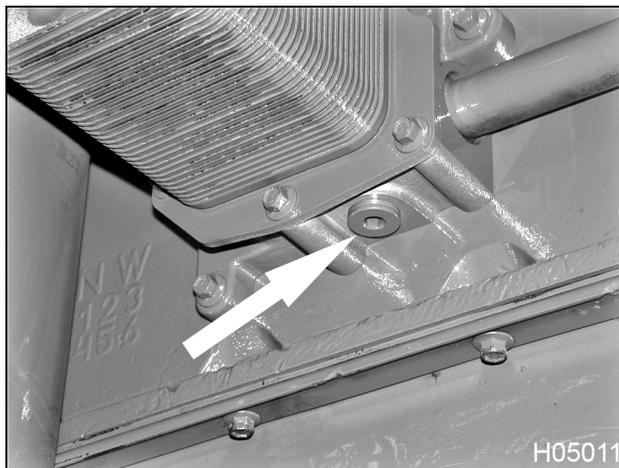

Figure 1. Coolant Drain Plug
4. Put coolant drain pan under coolant drain plug shown in Figure 1.